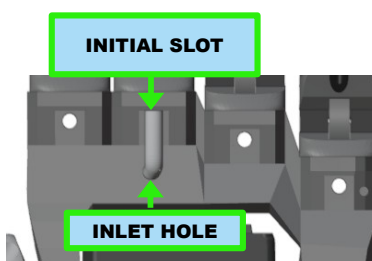

Figure 5.25: Inserting the tube into the circular slot (front view)
2. Take the remaining part (on the rear of the skeleton) and thread it first through the 2 pass-through tunnels and then into the final slot (figure 5.25).